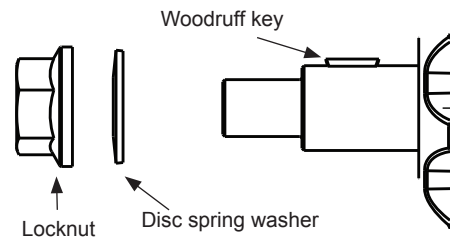

Figure 1: Pulley Installation
3. Install pulley, disc spring washer, and nut on shaft in that order. See Figure 1. Torque pulley nut to 163 Nm/120 lb. ft.